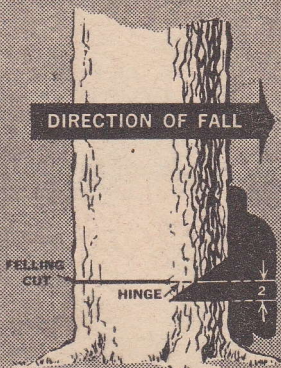

FIGURE 12
2. Keep both hands on handles while using saw. Start felling cut on opposite side of tree (Figure 12) at least 2" higher than horizontal cut of notch (the larger the tree, the higher the felling cut should be above the notch. **DO NOT CUT THROUGH TO NOTCH.** Always leave section of wood parallel to notch as hinge.